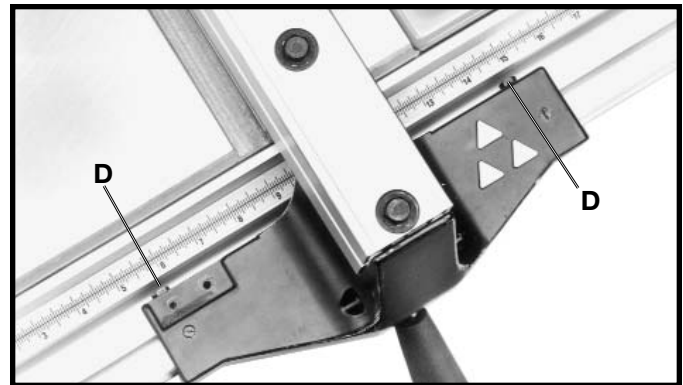

Fig. 47
5. Slide rip fence (B) Fig. 46, against one edge of the miter gage slot (C) as shown. Clamp the fence onto the guide rail by pushing down on lock handle (A). The edge of the fence (B) Fig. 46, should line up so it is parallel with the edge of the miter gage slot. If an adjustment is necessary, tighten or loosen either of two screws (D) Fig. 47, as necessary until rip fence (B) Fig. 46, lines up with the miter gage slot. **NOTE:** Cursor has been removed for clarity.